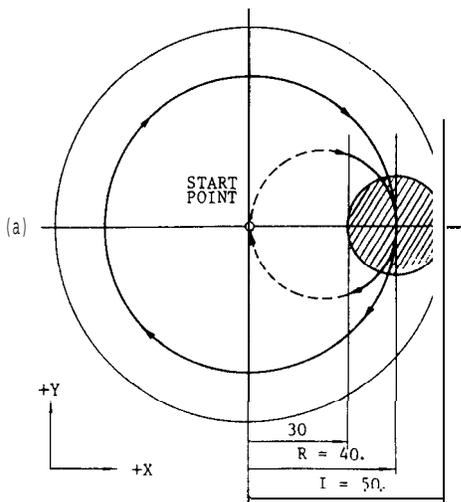

Fig. 2.23
In the explanation above, only motions in the + direction of X-axis is considered. With proper use of signs for I, K and D codes, motions in the - direction of X-axis (symmetrical with respect to Y-axis) can be commanded. In Fig. 2.23, signs of I, R and (D) are minus. However, cutting in the Y-axis direction is impossible.